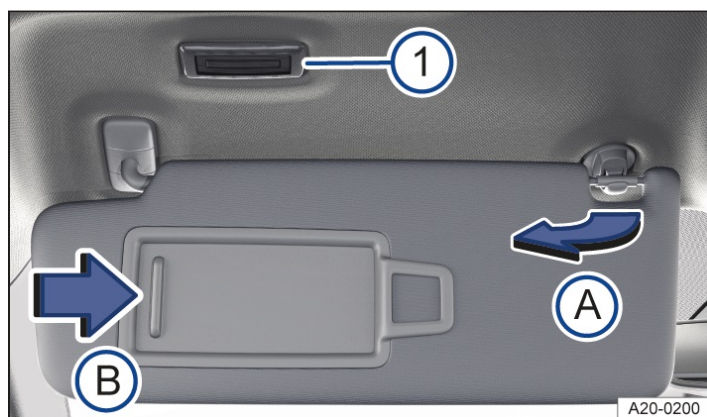

Fig. 1 In the front headliner: sun visor.
- Pulled out of the bracket and swung over towards the door → Fig. 1 A.
There is a vanity mirror behind a cover on the inside of the sun visor. When you open the cover → Fig. 1 B, the lamp → Fig. 1 ① lights up.